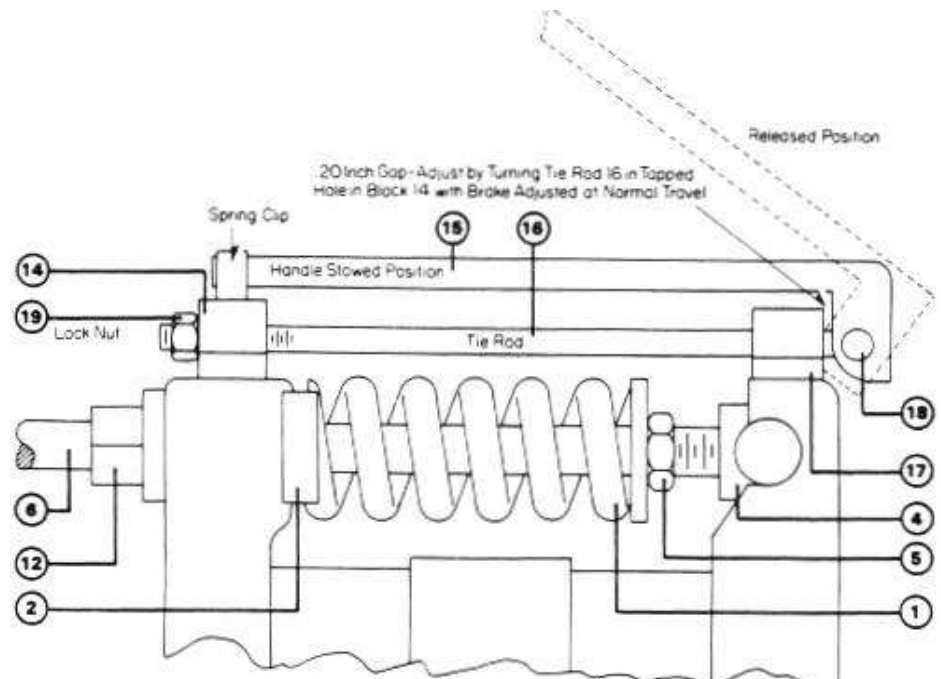

Figure 5: Hand Release for Frames 43 thru 1665 as shown. Frame 1985 and 2311 have Crank Type Hand Release.
When specified on order, a lever-type hand release is available as optional at extra cost. Figure 5 shows simple mechanism used on open brakes allowing quick release of brake torque as for lowering a load in case of power failure. The standard hand release is non-latching and allows only the minimum amount of shoe clearance to allow the wheel to turn. When brake must be released for longer time or with more shoe clearance as for maintenance or installation, release brake with bushing item (12).